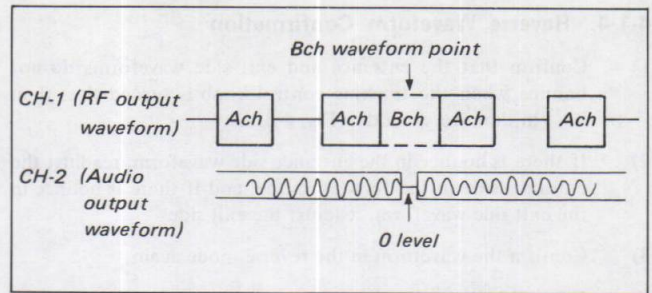
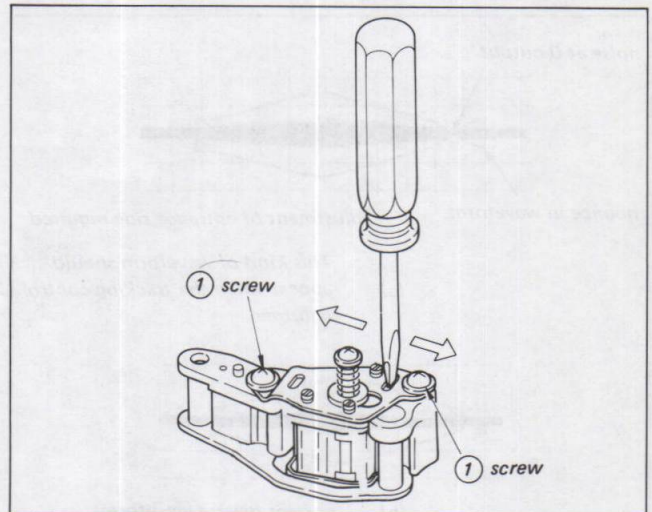

Fig. 4-13.
Fig. 4-14.
- 3) Turn the tracking control knob back and forth, and confirm that the output waveform level is maximum at the center click position, and that the 0 level of the audio signal is at the point where the RF output waveform Bch waveform appears, as shown in Fig. 4-13. If adjustment is necessary, proceed as follows.
Set the tracking control knob at the center click position and loosen the two ACE assembly position adjustment screws ①. As shown in Fig. 4-14, slide the ACE assembly with a screwdriver until it is in the position shown in Fig. 4-13 and the RF output waveform is maximum. Tighten the screws when this position is obtained.